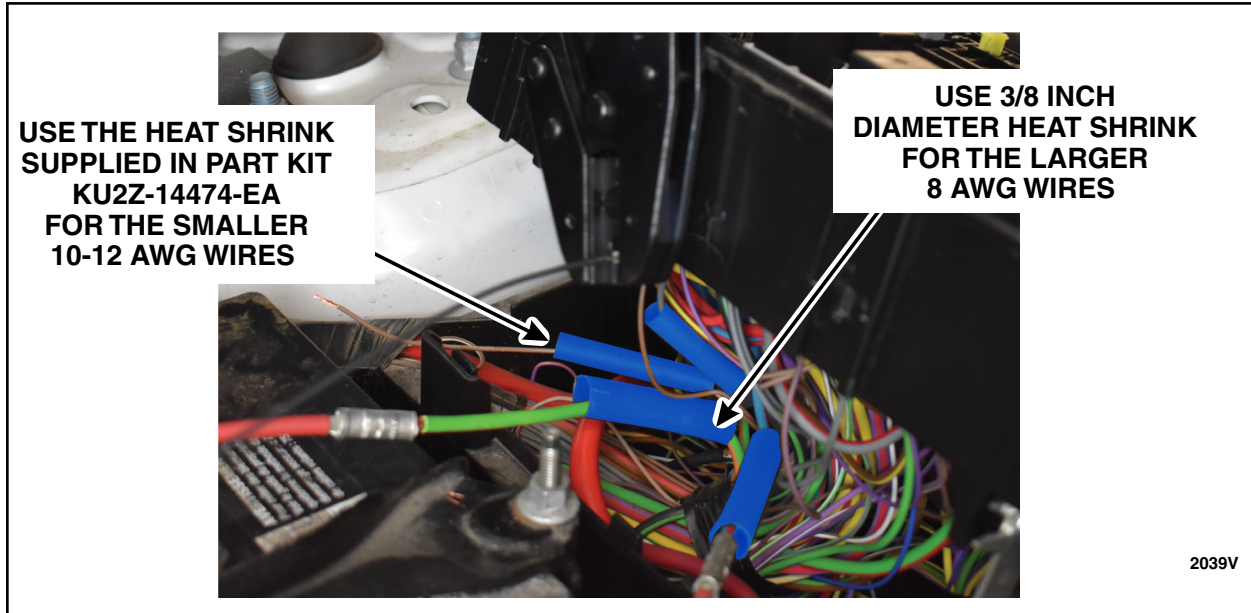

FIGURE 11
- c. Strip 0.38 in (9.53 mm) of the insulation from the two (2), in vehicle, smaller gauge wires of the terminals just removed (from the grey and the brown wires) and two (2) *new* smaller gauge wires that were just cut to length (Part Number KU2Z-14474-EA).
- d. Strip 0.5 in (12.7 mm) of the insulation from the two (2), in vehicle, larger gauge wires of the terminals just removed (from the blue/red and the green/orange) and the two (2) *new* larger gauge wires that were just cut to length (Part Number JU2Z-14474-BA).
3. Slide all four (4) heat shrink tubes away from the heat while soldering. See Figure 11.